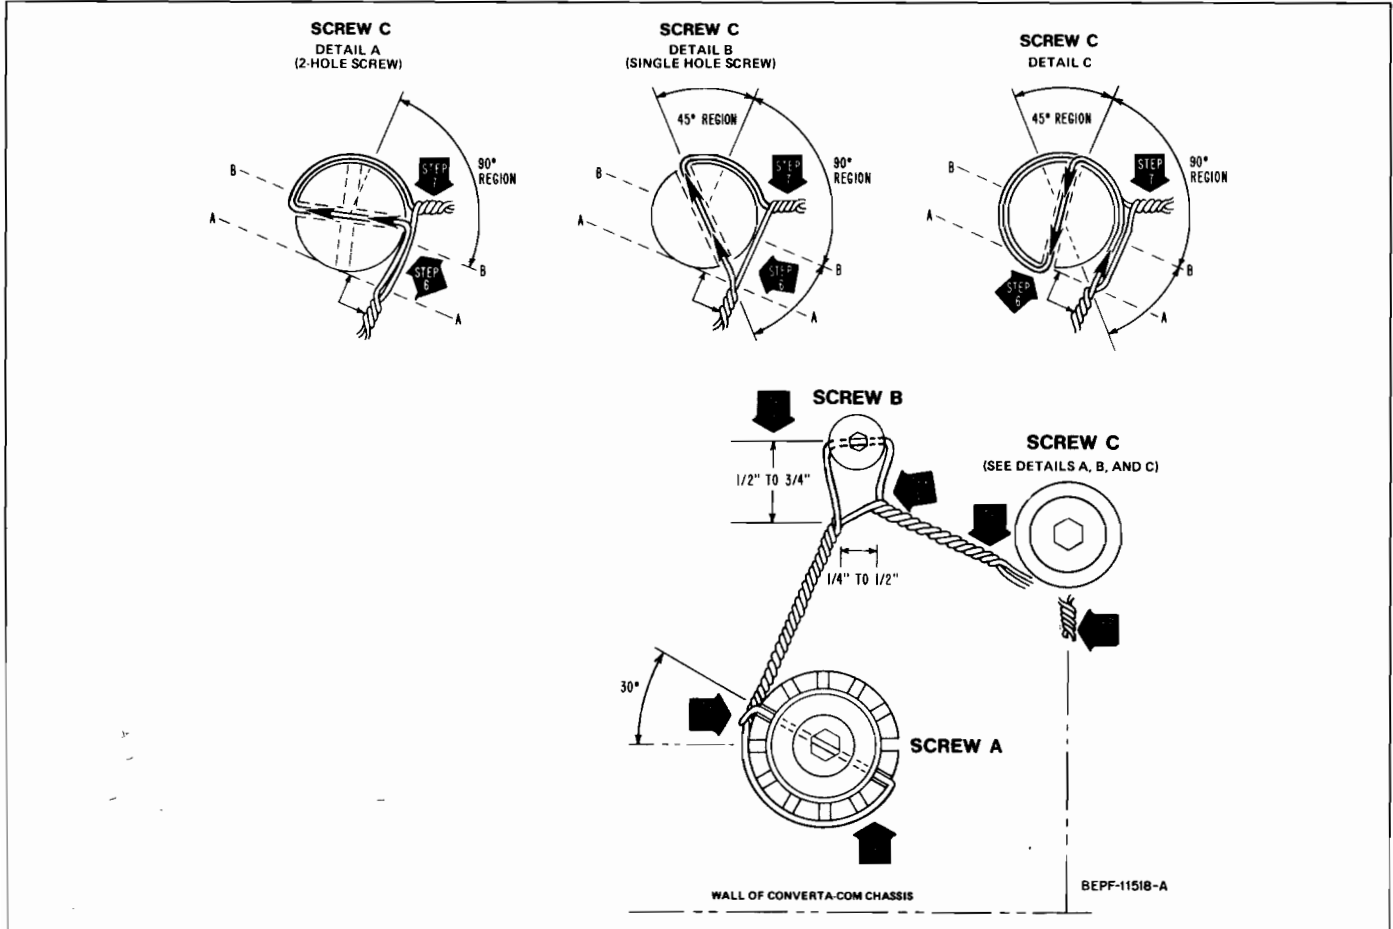

Figure 14. Pawl Arm and Safety Wire Detail
- (20) To safety wire the bolts, use needle-nose pliers to pull half the length of the wire through from the adjustable bushing and shoulder bolt (screw A in Fig. 14) so that both ends are of equal length.
- (21) Start the first clockwise twist in the pair of wires by hand in the 30° region shown in Fig. 14. Using safety wire pliers (6605942M01), complete the clockwise twist between screw A and screw B such that the last twist occurs 1/2" to 3/4" from the centerline of screw B, as shown in Fig. 14.
- (22) Insert one wire through screw B, and resume twisting of wire pair by repeating the hand twist procedure used in step 21 at a point 1/4" to 1/2" from the end of the first twist. Using safety wire pliers, complete the clockwise twist such that the last twist occurs at the perpendicular line "AA" shown in Details A, B and C of Fig. 14.
- (23) Insert one wire through screw C within the 90° region shown in Detail A. Where only a single through hole screw is used, refer to Details B and C which shows the additional 45° safety wire entrance area.
- (24) Tighten the safety wire by pulling both ends towards the wall of the "Converta-Com" Console chassis. Hand start a clockwise twist and, using the safety wire pliers, add an additional five twists, minimum. Clip off and discard the excess wire. Bend the five-twist wire length against screw C to eliminate the safety danger posed by protruding lengths, of sharp wire.
- (25) Recheck .032" pin adjustment.